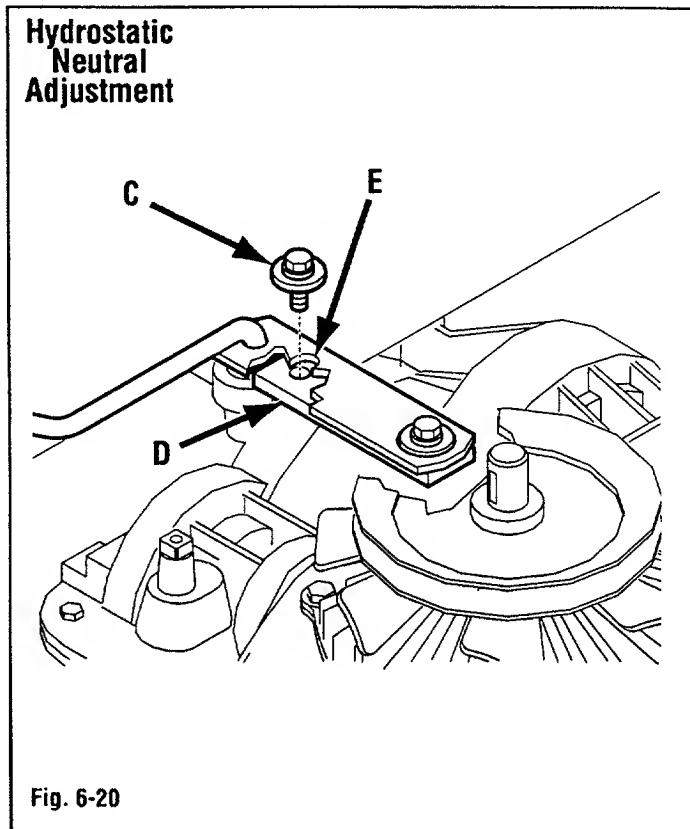

Fig. 6-20
- Adjust hydro control arm (D, Fig. 6-20) along slot (E) until rear wheels do not move.
- Tighten hardware (C).